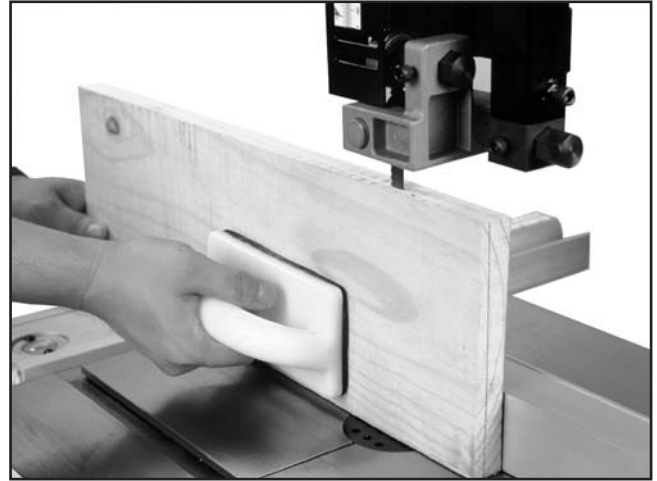

Figure 42. Example of typical resawing technique.
Resawing (**Figure 42**) is the process of cutting a board into two or more thinner boards. The maximum board width that can be resawn is limited by the maximum cutting height of the bandsaw.
7. Using push paddles and a push stick, keep pressure against the fence and table, and slowly feed the workpiece into the moving blade until the blade is completely through the workpiece (see **Figure 42**).